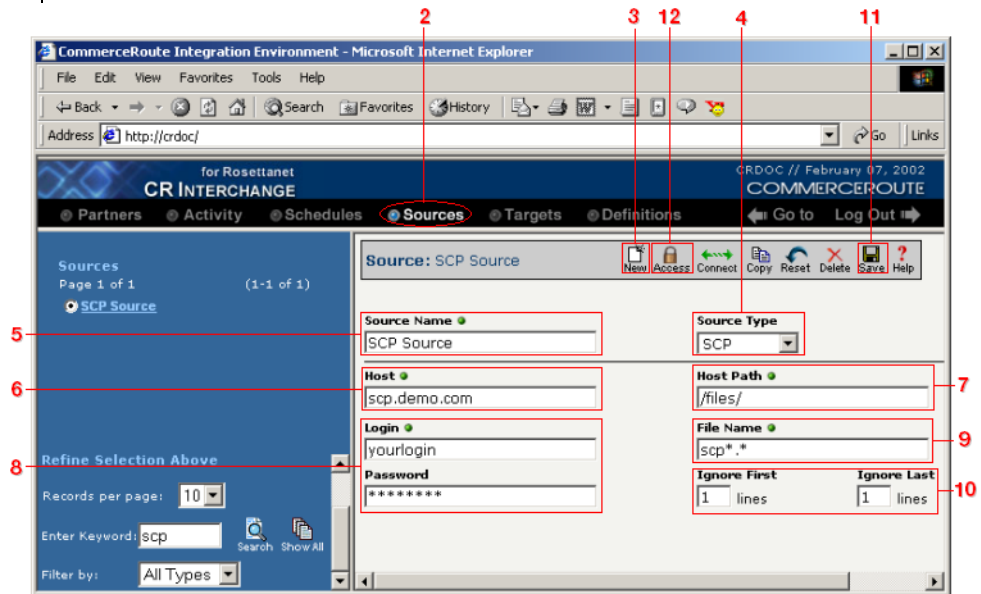

Figure 7-5. Follow the steps listed above to successfully define a new SCP source.
Follow these steps to create a new SCP source definition. Each step is marked in Figure 7-5 below.
- ❶ Log in to the CR Interchange environment (see “Log In to the Tour” on page 2-2 for details).
- ❷ Click on the **Sources** button in the main navigation bar at the top of the screen.
- ❸ Click the **New** button in the toolbar to create a new source definition.
- ❹ Select “SCP” from the **Source Type** drop-down menu.
- ❺ Enter a unique name for your source definition in the **Source Name** field.
- ❻ Enter a valid SCP server location in the **Host** field.
- ❼ Enter a valid root location in the **Host Path** field. The path should start and end with a “/”, like in /catalogs/.
- ❽ Enter an appropriate login and password for the SCP server in their respective fields.
- ❾ Indicate which file(s) contain your source information (such as `file.txt`, `*.doc`, or `*.txt`) on your SCP server in the **File Name** field.
- ❿ (Optional) If you have headers and/or footers in your file, enter the number of lines into the appropriate field that you want the system to ignore.
- ⓫ Click the **Save** button in the toolbar. Compare your definition to that shown in Figure 7-5 below.